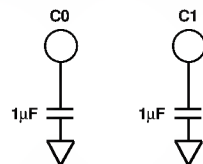

Figure 18. AD1849K External Filter Capacitor Connections
Figure 18 illustrates signal-path filtering capacitors, C0 and C1. The AD1849K must use 1.0  $\mu$ F capacitors.
- The Analog Devices AD1849K uses two external capacitors to complete its internal input filter as shown in Figure 18. The CS4215 calls the two pins on the AD1849K for these capacitor connections, “no connects.” By laying out a board with these capacitors, either chip will work.